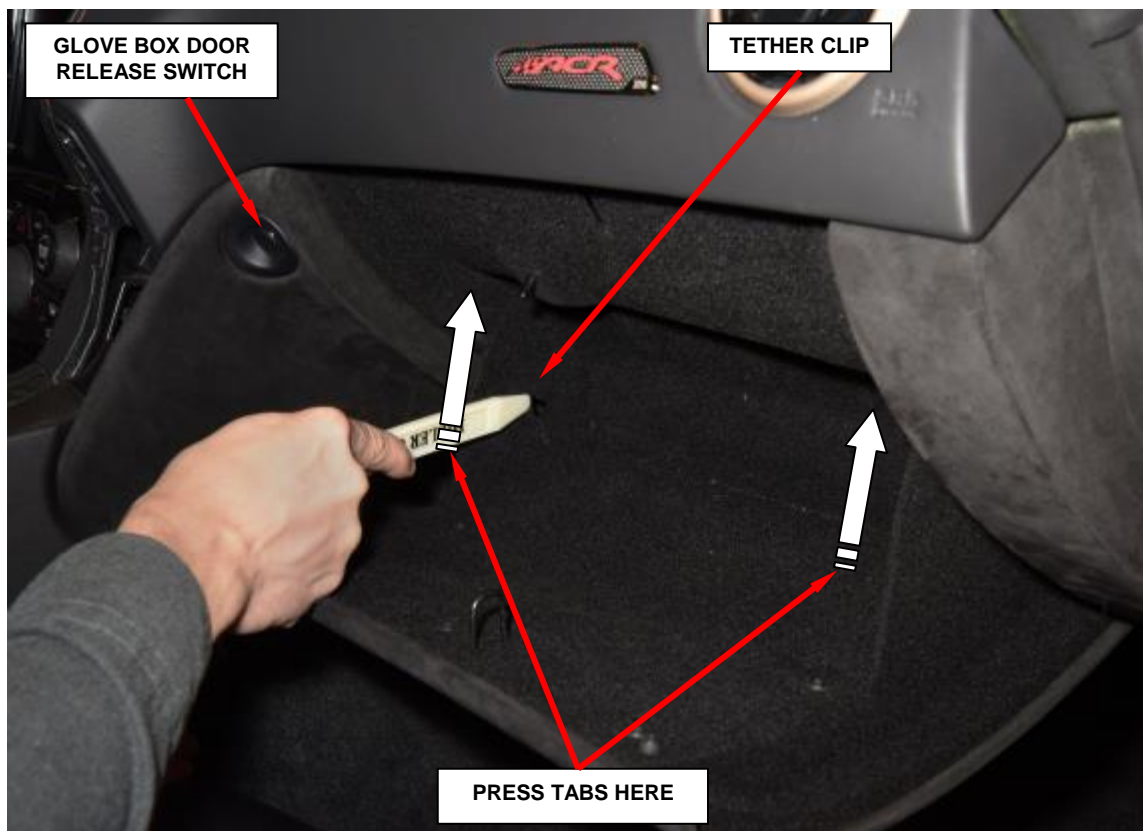

Figure 1 - Glove Box
- b. Lower the glove box door and disconnect tether clip (Figure 1).
- c. Press the tab on the glove box trim panel and lower the glove box door fully (Figure 1).